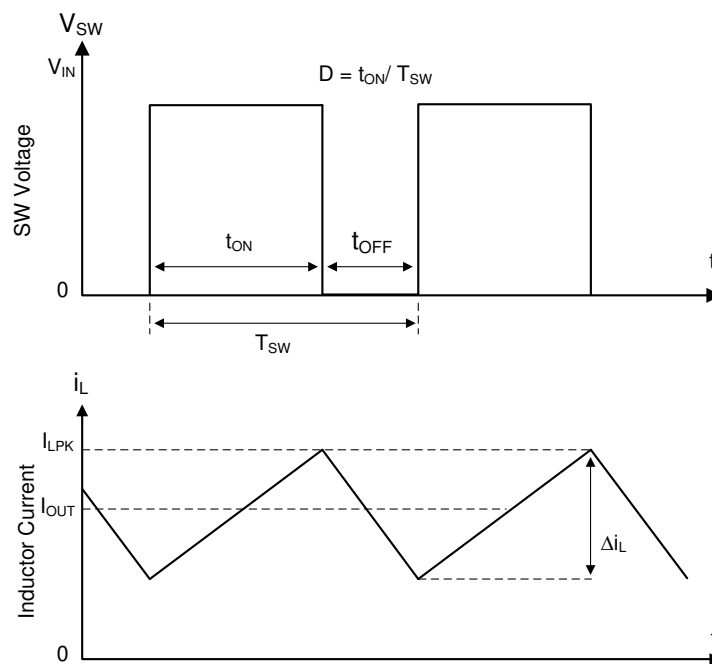

Figure 7-1. SW Node and Inductor Current Waveforms in Continuous Conduction Mode (CCM)
The following operating description of the LMR51603-Q1 refers to the Functional Block Diagram and to the waveforms in Figure 7-1. The LMR51603-Q1 is a step-down synchronous buck converter with integrated high-side (HS) and low-side (LS) switches (synchronous rectifier). The LMR51603-Q1 supplies a regulated output voltage by turning on the high-side and low-side NMOS switches with controlled duty cycle. During high-side switch ON time, the SW pin voltage swings up to approximately V_{IN} , and the inductor current, i_L , increases with a linear slope of $(V_{IN} - V_{OUT}) / L$. When the high-side switch is turned off by the control logic, the low-side switch is turned on after an anti-shoot-through dead time. Inductor current discharges through the low-side switch with a slope of $-V_{OUT} / L$. The control parameter of a buck converter is defined as Duty Cycle $D = t_{ON} / T_{SW}$, where t_{ON} is the high-side switch ON time and T_{SW} is the switching period. The converter control loop maintains a constant output voltage by adjusting the duty cycle D . In an ideal buck converter, where losses are ignored, D is proportional to the output voltage and inversely proportional to the input voltage: $D = V_{OUT} / V_{IN}$.